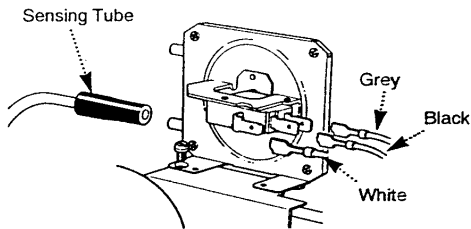

Fig. 112
**10.9 Pressure Switch (Fig 112)**